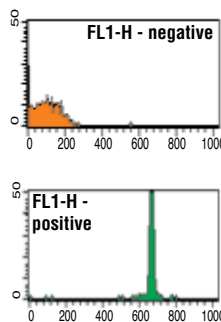

Figure 5
2. Using the FL1 and/or FL2 channels (depending on the reporter antibodies used), determine whether or not any bead populations tested “positive” for the analyte. (Figure 5) Note: A positive bead will produce a fluorescent peak in the FL1 or FL2 channel. The minimum fluorescence intensity needed to be considered “positive” is based on the Relative Channel Value (RCV) of the peak. It is up to the investigator to determine what threshold RCV value will constitute a “positive” result.